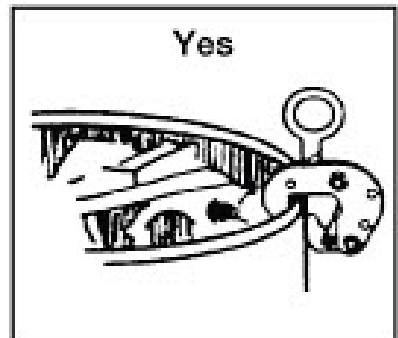

Figure 55
**WARNING!** The clamp must be positioned with the spring-loaded cam on the outside of the drum (Fig. 55).